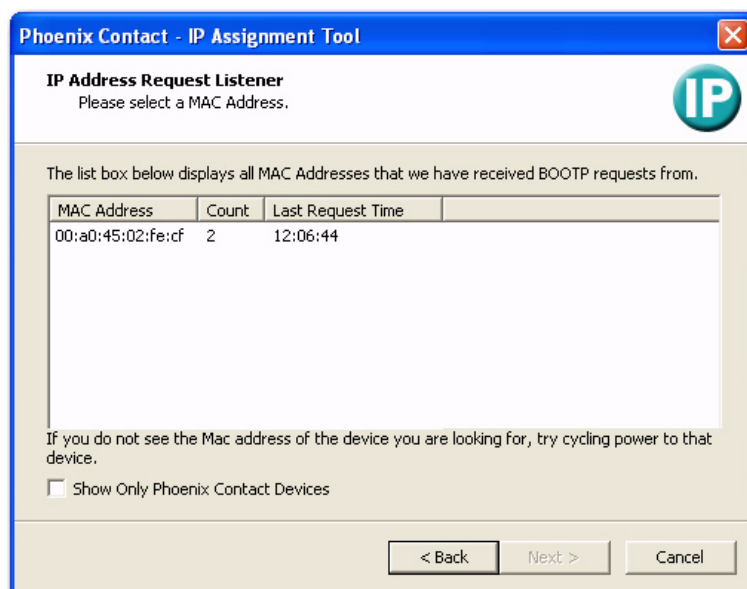

Figure 2-27 The “IP Address Request Listener” page of the IP Assignment Tool.
3. Click the “Next” button to start listening for BooP messages (see Figure 2-27).